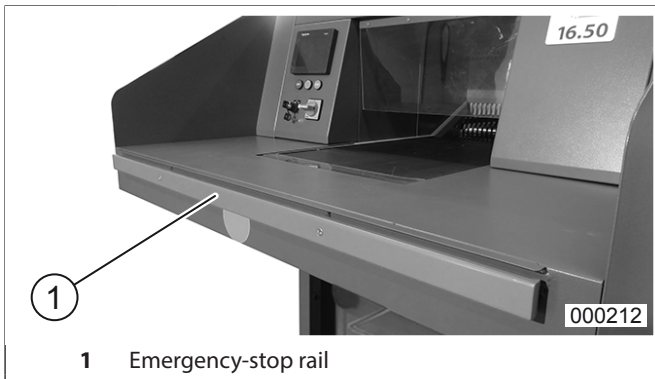

fig.3 Emergency-stop rail
1. Free the emergency-stop rail (pull out the rail) (fig.3) on the shredder feed table. Switch on the main switch (fig.4/2) i.e. to position „1“.